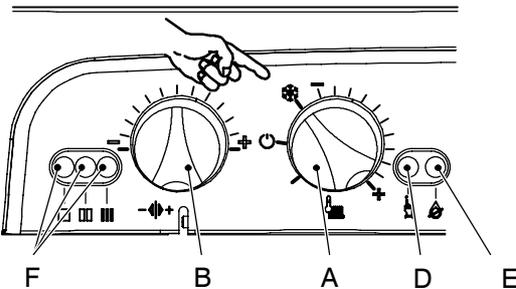

Fig. 23
- 10 Turn the boiler OFF and ON positioning the function selector knob A as indicated in Fig. 23